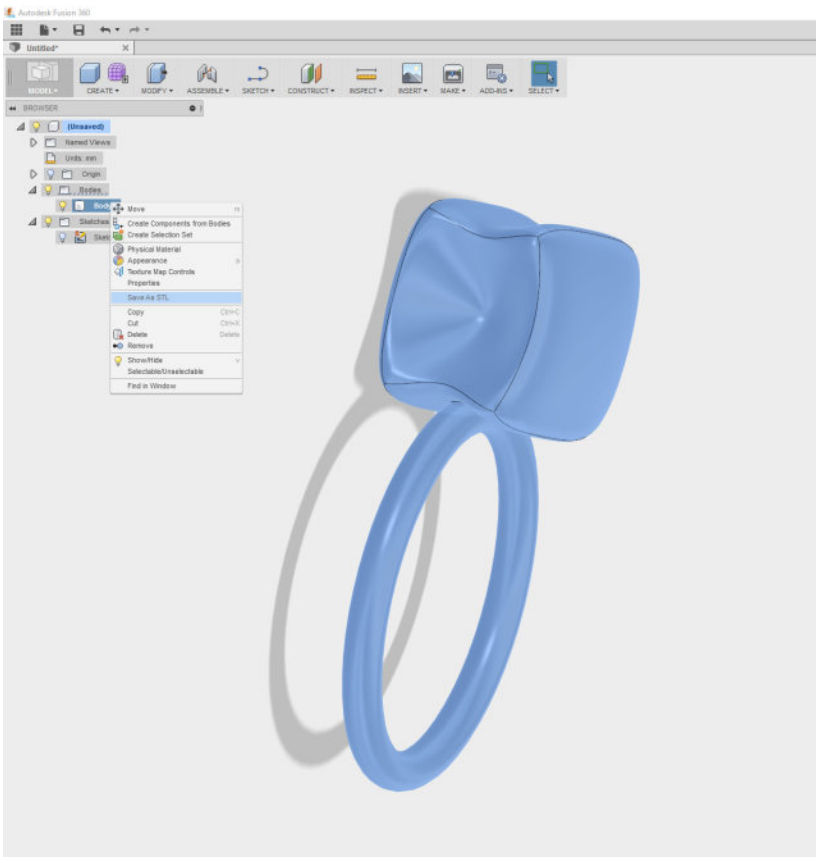

Figure 11-21. *Selecting Save As STL on the combined body*
29. Select the “Save As STL” option and select “High quality” as shown in Figure 11-21.